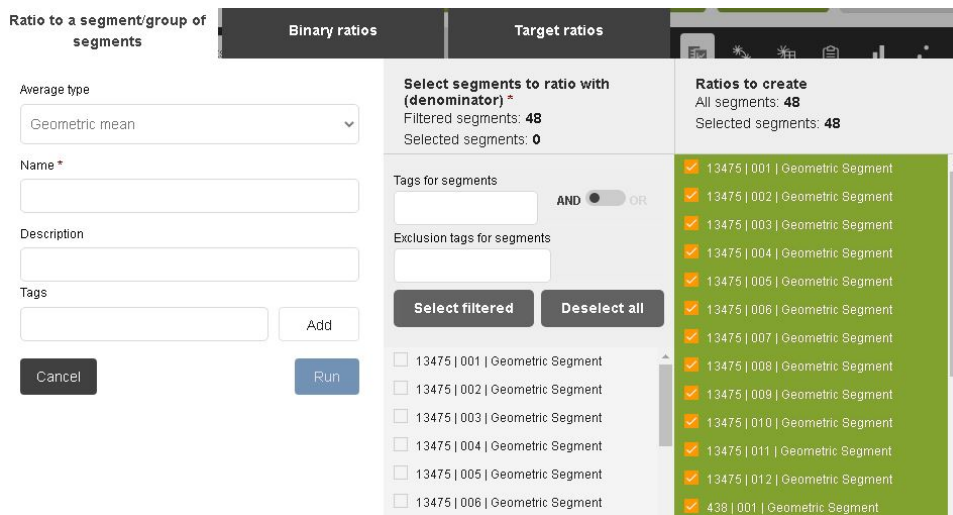

Figure 42: Ratio to average parameters window
Choose one of the three tab options (see Figure 42) to build ratios:
2. Open **Ratio Builder** and confirm you are on the **Ratio to a segment/group of segments** tab (see Figure 42).